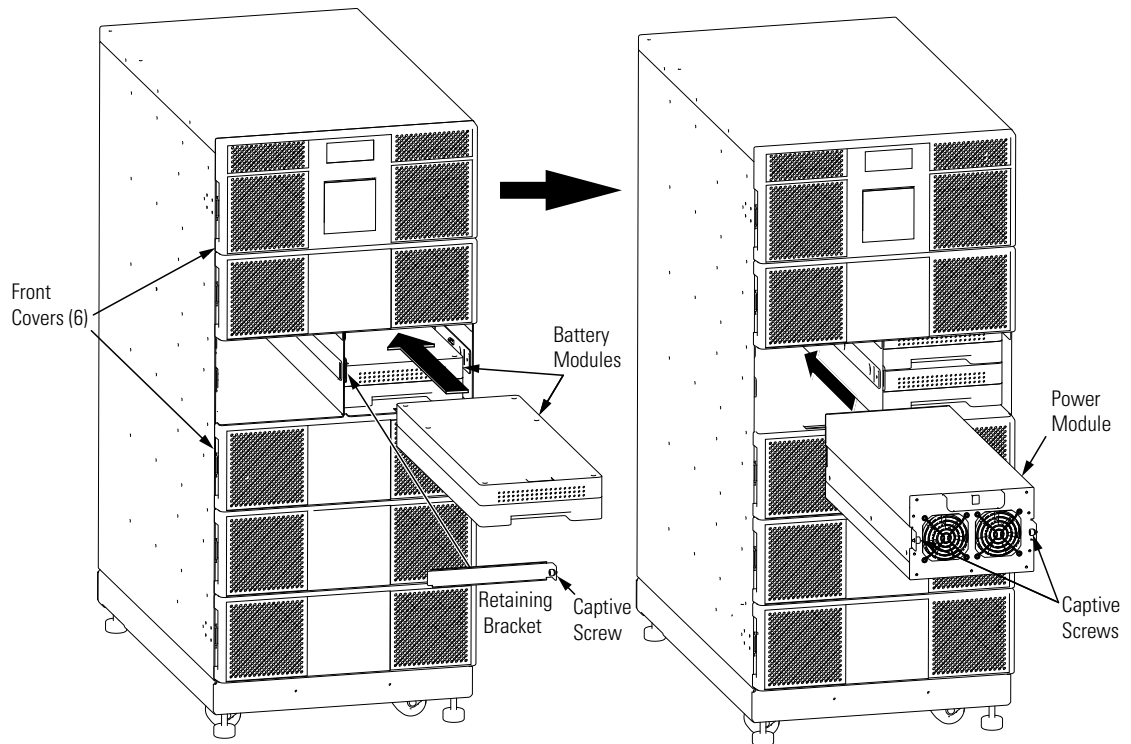

Figure 46. Inserting the Modules
3. Tighten the captive screw (see Figure 46).
4. To install the battery modules (see Figure 46):